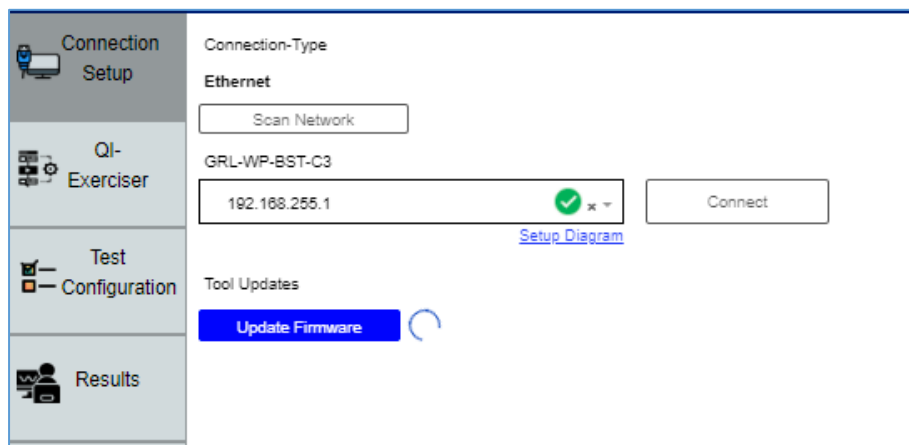

FIGURE 7.4: UPDATE GRL-C3 FIRMWARE– #2
- The firmware update process will start and may take a few minutes to complete (Figure 7.4 below).